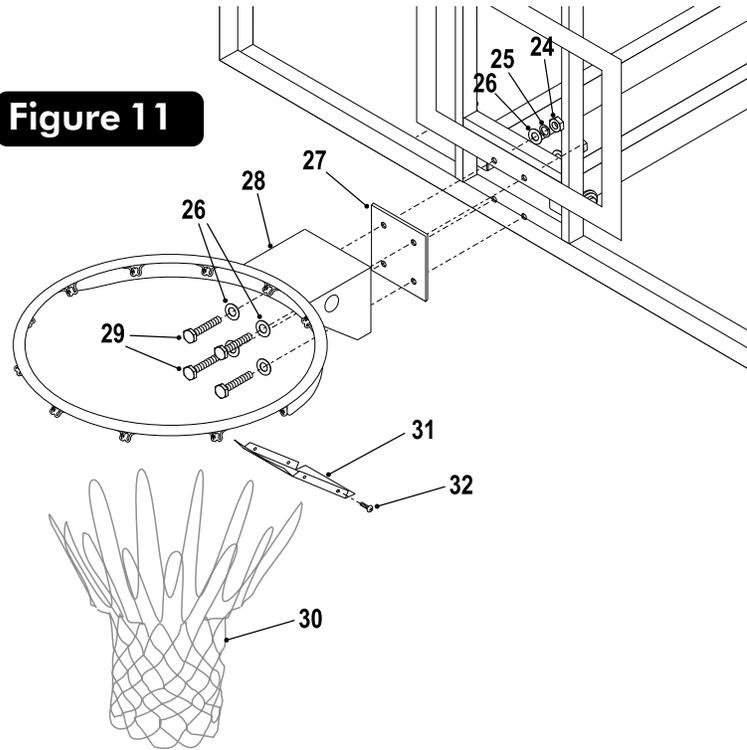

Figure 11
17. Remove protective backboard covering and mount Goal Assembly (#28) and Rim Pad (#27) to Backboard, as shown in Figure 11, using four bolts (#29), eight washers (#26), four lockwashers (#25) and four nuts (#24). Tighten fasteners finger tight, leave them loose enough to level rim.
19. Attach Rim Cover Plate (#31) using four screws (#32). See Figure 11.